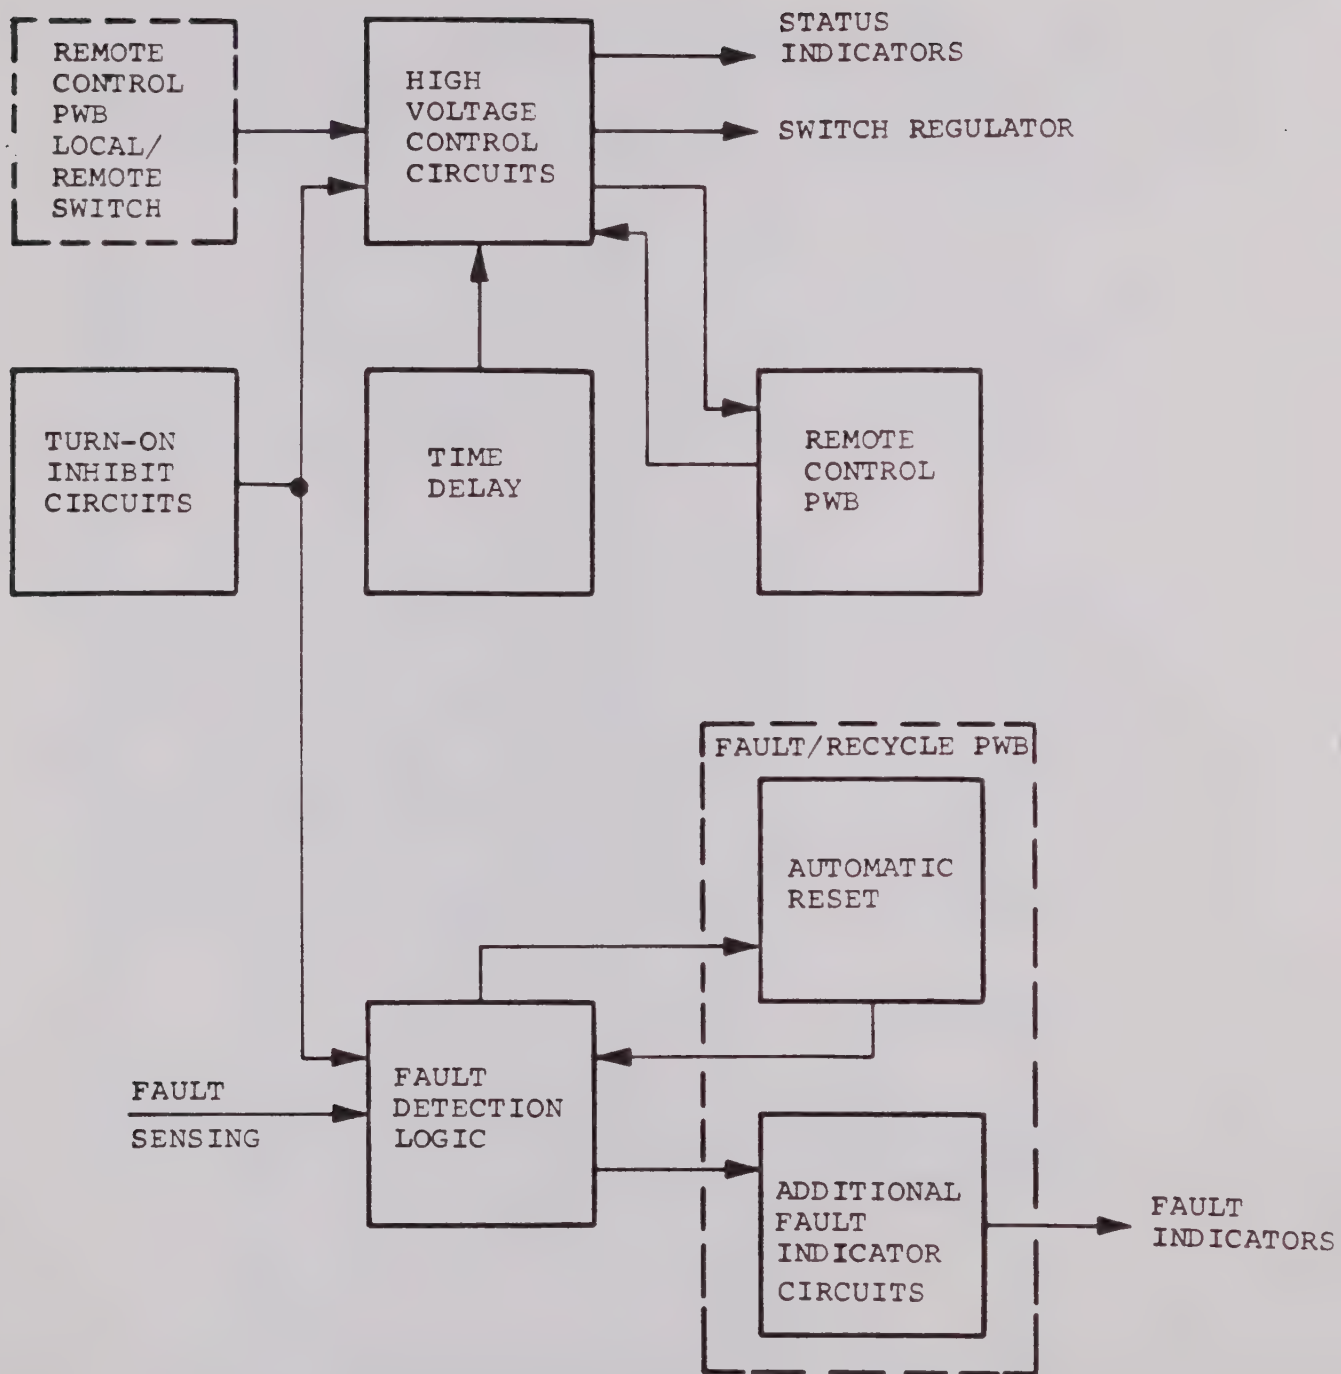

FIGURE 5-11 LOGIC PWB FUNCTIONS
5.2.7.1 General. The logic circuits provide the control, monitoring and protection of the PA. A functional block diagram of the Logic PWB is shown in Figure 5-11.